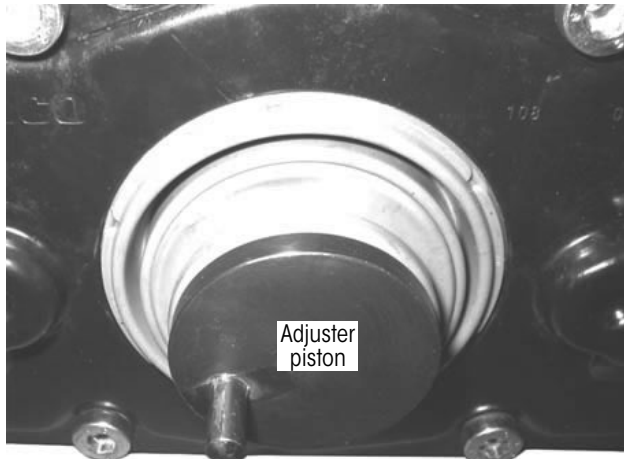

Figure 82: Properly installed adjuster piston boot
5. **Ensure** the adjuster piston boot is correctly seated in the brake caliper and the exposed edge of the adjuster piston boot (Figure 82) is wrinkle-free (Figure 32 on page 18).